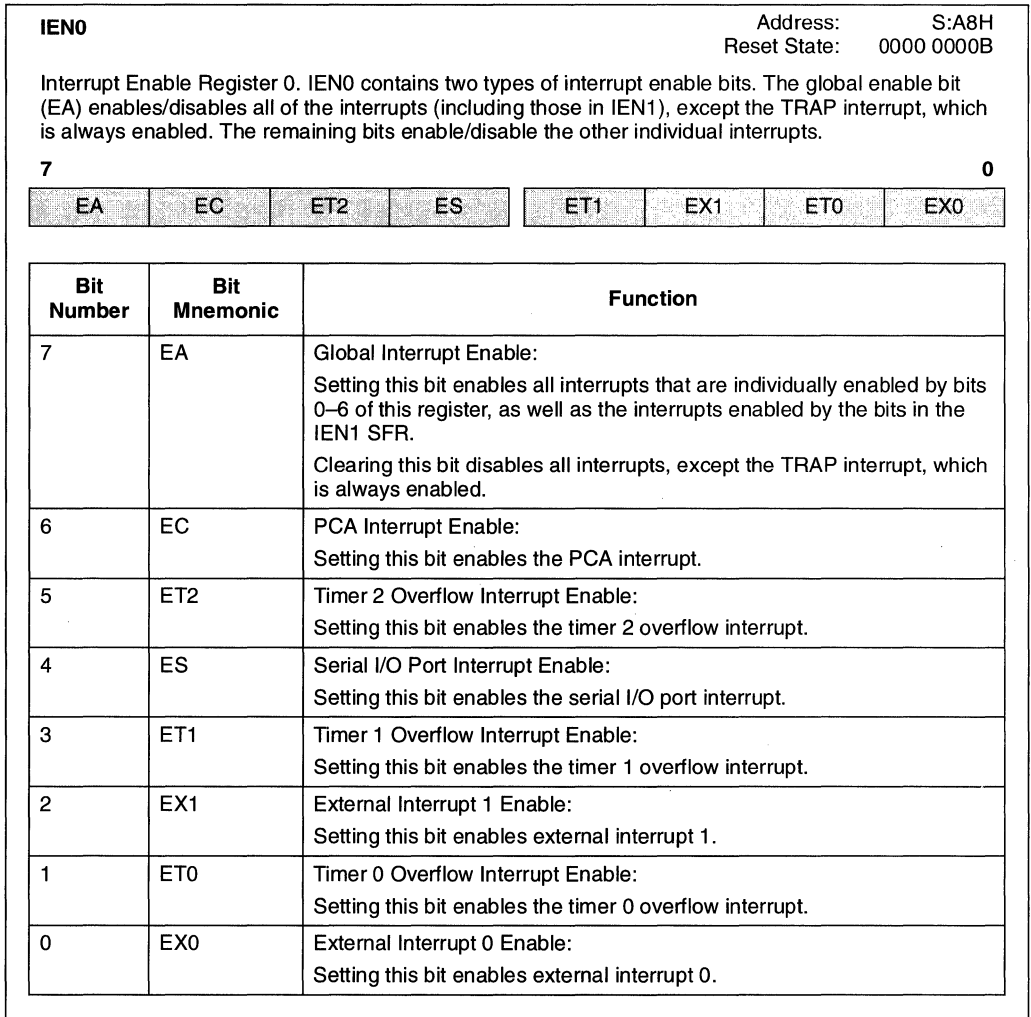
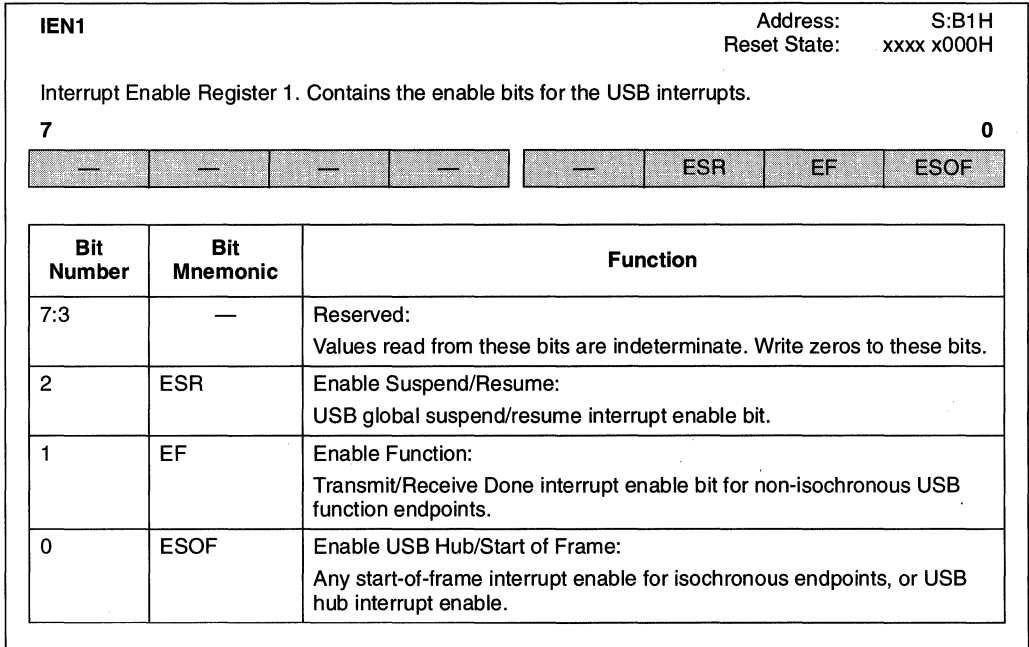

Figure 6-12. IEN0: Interrupt Enable Register 0
Figure 6-13. IEN1: USB Interrupt Enable Register
1. The global enable bit must be set. That is, the EA bit must be set in the IEN0 register (Figure 6-12).
2. The isochronous endpoint any SOF interrupt must be enabled. That is, the ESOF bit must be set in the IEN1 register (Figure 6-13).
1. Set the global enable bit (EA) in the IEN0 register (Figure 6-12)
- a. the EA bit of IEN0 (Figure 6-12)
- b. the ESR bit of IEN1 (Figure 6-13)
Each interrupt source (with the exception of `TRAP`) may be individually enabled or disabled by the appropriate interrupt enable bit in the `IEN0` register at `S:A8H` (see Figure 6-12) or the `IEN1` register at `S:B1H` (see Figure 6-13). Note `IEN0` also contains a global disable bit (`EA`). If `EA` is set, interrupts are individually enabled or disabled by bits in `IEN0` and `IEN1`. If `EA` is clear, all interrupts are disabled.